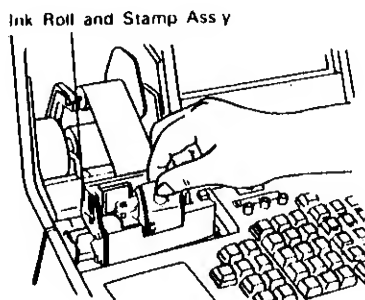

Fig. 11
- 2) Remove the ink roller holder (see Fig. 11).
- 2) Remove the ink roll holder (see Fig. 11).